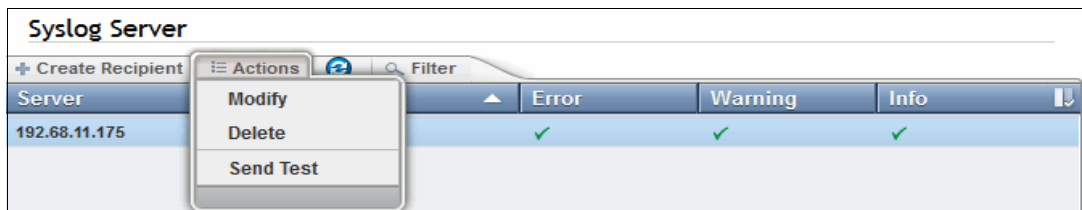

Figure 4-34 Syslog Server Notifications Actions menu
3. After the syslog server is set, you can use the **Actions** menu, as shown in Figure 4-34. You can modify, delete, or send a test to the IP address of a syslog server.